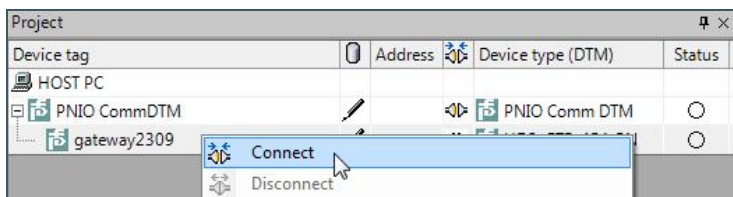

Figure 53: Connecting the gateway to the interface
- 5) **Connect the gateway** (see: Figure 53: Connecting the gateway to the interface).